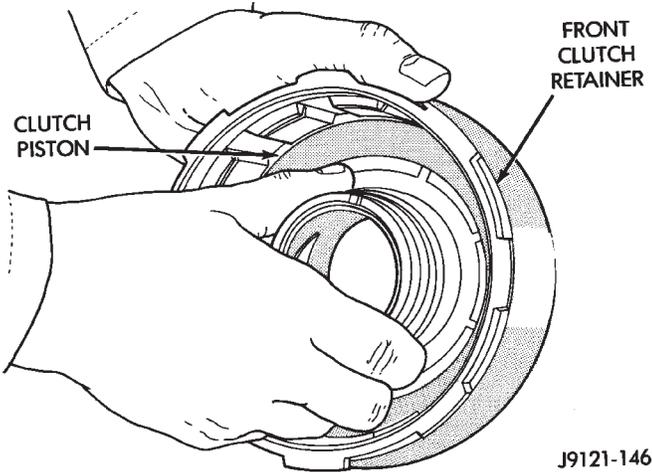

Fig. 177 Front Clutch Piston Installation
(1) Soak clutch discs in transmission fluid while assembling other clutch parts.
(2) Install new seals on piston and in hub of retainer. Be sure lip of each seal faces interior of clutch retainer.
(3) Lubricate lips of piston and retainer seals with liberal quantity of Mopar® Door Ease. Then lubricate retainer hub, bore and piston with light coat of transmission fluid.
(4) Install clutch piston in retainer (Fig. 177). Use twisting motion to seat piston in bottom of retainer.